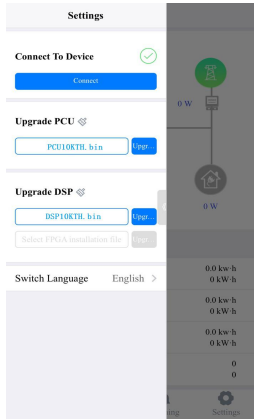
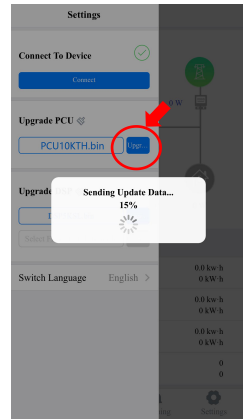

Figure 4-18
Figure 4-19
5. Tap "Upgrade". You need to enter the password "sermatec2015" .The software will be upgraded. (Figure 4-18, Figure 4-19)